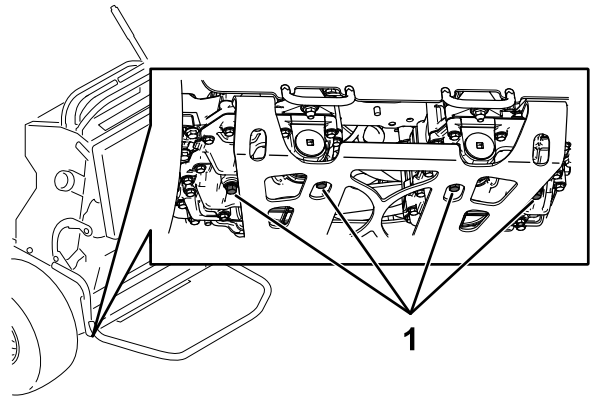

Figure 71
3. Locate the drain plugs in the bottom of the transmission and place a drain pan under the plug (Figure 71).